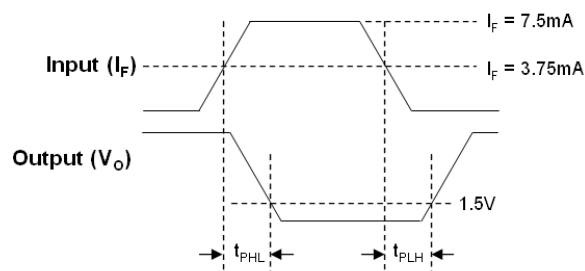

Figure 1: Single Channel Test Circuit
1. A 0.1μF or bigger bypass capacitor for VCC is needed as shown in Fig.1